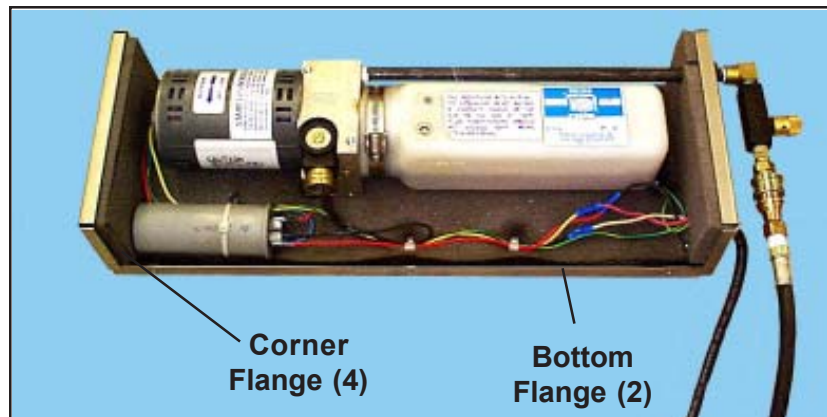

Figure 37. Cover Mounting Flanges
25. Replace the power pack cover (Figure 37). **Note:** The cover fits *inside* the corner flanges, but *outside* the bottom flanges.